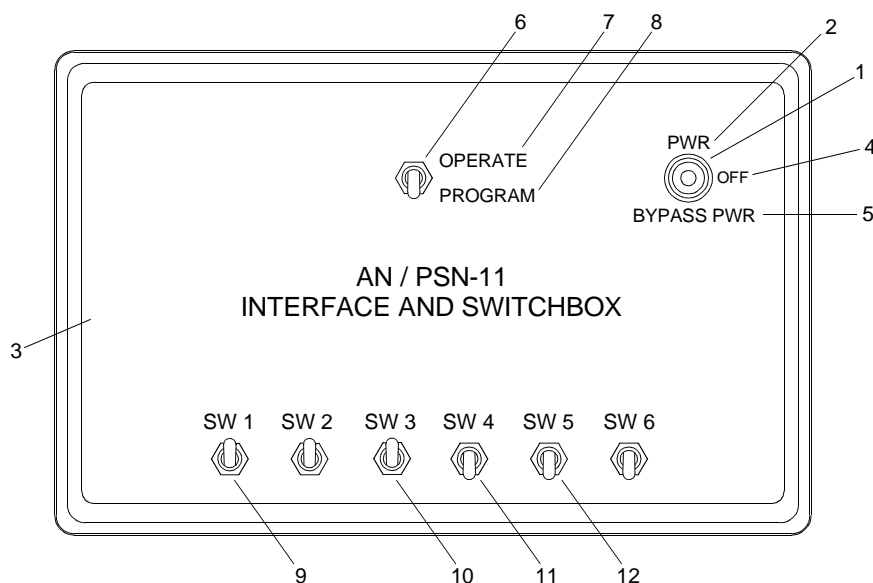

Figure 1. Interface and Switchbox
3. Press the POS key (figure 1, item 6) to end setup and return to POSITION display.
1. Place the power switch (figure 1, item 1) in the PWR position (figure 1, item 2) to allow the interface and switchbox (figure 1, item 3) to receive ships power and supply regulated power to the PLGR.
2. Place the power switch (figure 1, item 1) to the OFF position (figure 1, item 4) to allow the interface and switchbox (figure 1, item 3) to receive ships power, but not allow power output to the PLGR.
3. Place the power switch (figure 1, item 1) in the BYPASS PWR position (figure 1, item 5) to allow the interface and switchbox (figure 1, item 3) to receive ships power and supply unregulated power to the PLGR.
4. Place the OPERATE/PROGRAM switch (figure 1, item 6) in the OPERATE position (figure 1, item 7) to allow GPS data from the PLGR to be distributed to J1–J5 outputs.
5. Place the OPERATE/PROGRAM switch (figure 1, item 6) in the PROGRAM position (figure 1, item 8) to provide a direct programming link between the PLGR and a data terminal.
6. Place SW1 (figure 1, item 9) in the on (up) position to supply the GPS signal to the VHF/FM radio.